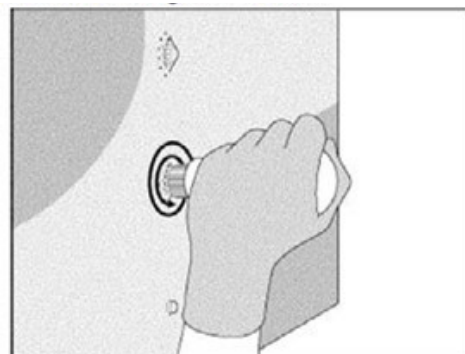

Figure 9. Finish brushing in a smaller circle.
5. Continue brushing in narrower and narrower circles until the brush is directly over the rivet. This conforms the film to the rivet. See Figure 9.